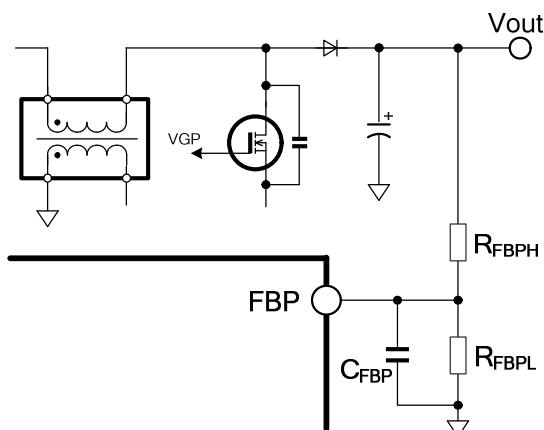

Fig.25 FBP resistance divider
PFC output voltage is determined by resistance divider (Refer to Fig. 25) and is obtained from formula (5).